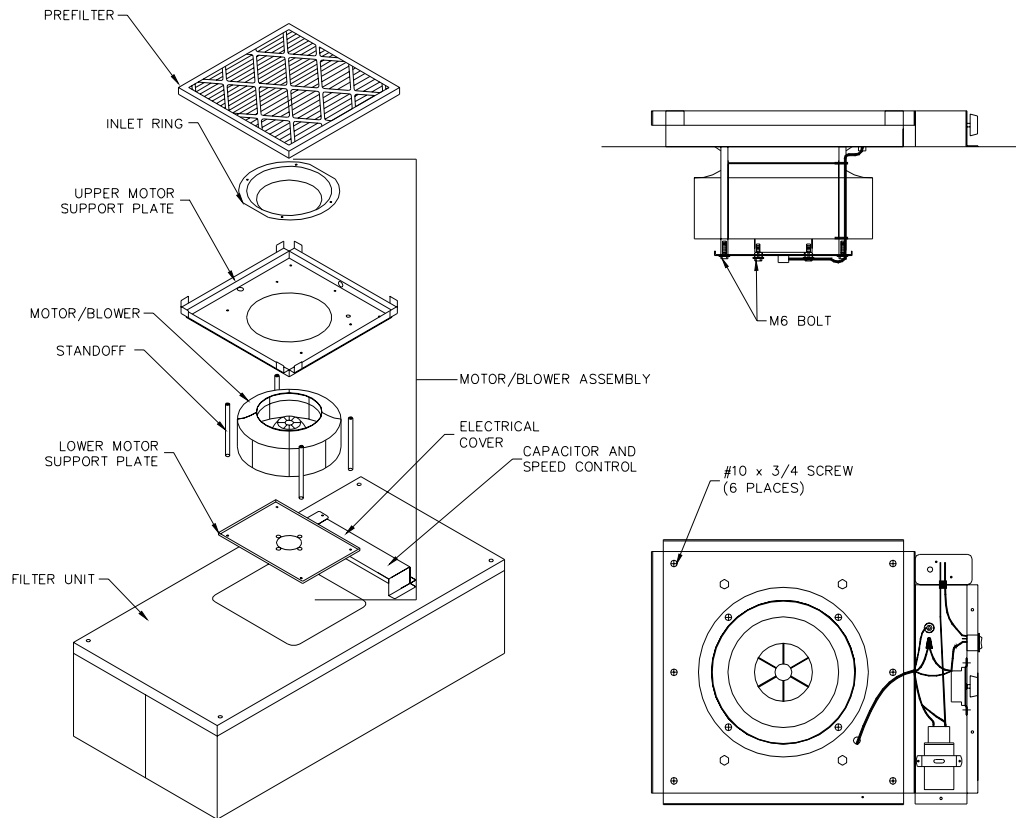

Figure 6
- Step 7.** Remove the six screws to free the motor/blower assembly from the lid assembly.(see Figure 6)